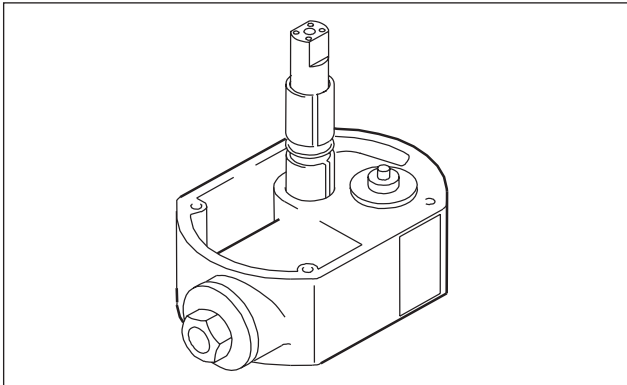

Fig. 17: Assembly of piston rod
- To install the plain bearing bushings and seal ring, we recommend using the piston rod for guidance (see Fig. 17).